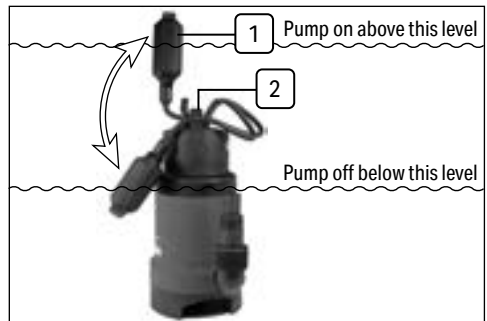
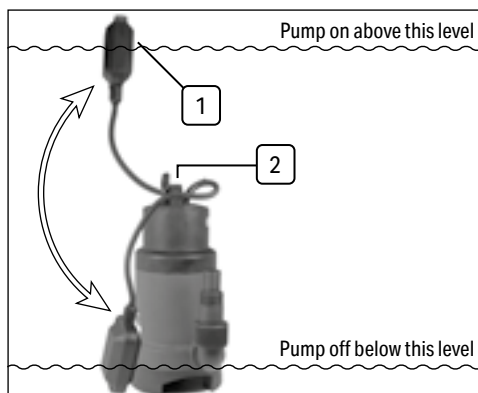

Fig. 4
Fig. 5
6.3 Positioning the Float Switch (Fig.4 – Fig.5)
- The float switch (1) controls the water level at which the pump will automatically switch on and off during operation. As the water level drops the float switch will activate and tip downwards.
- The float switch cord is anchored by the clamp (2) and the cord distance can be adjusted to determine the change in the volume of the water level required to switch the pump 'ON' or 'OFF'.